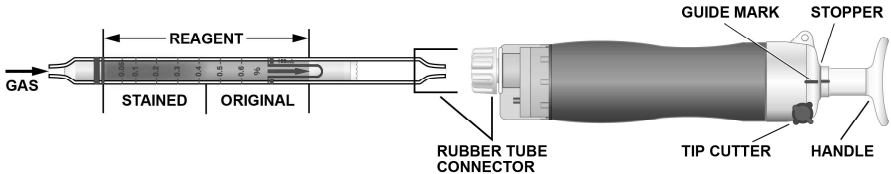

Fig.1
- ① Break both ends of the detector tube.
- ② Insert the detector tube into the aspirating pump securely as shown in Fig.1. (Arrow mark shall point to the pump.)
- ③ Align the guide marks on the handle and stopper of the aspirating pump.
- ④ Pull the pump handle at a full stroke until it locks and wait for 1 minute or until the completion of sampling is confirmed with the flow indicator of the pump. (See descriptions about the flow indicator in the instructions of the pump.)
- ⑤ On completion of sampling, read the scale at the maximum point of the stained layer.